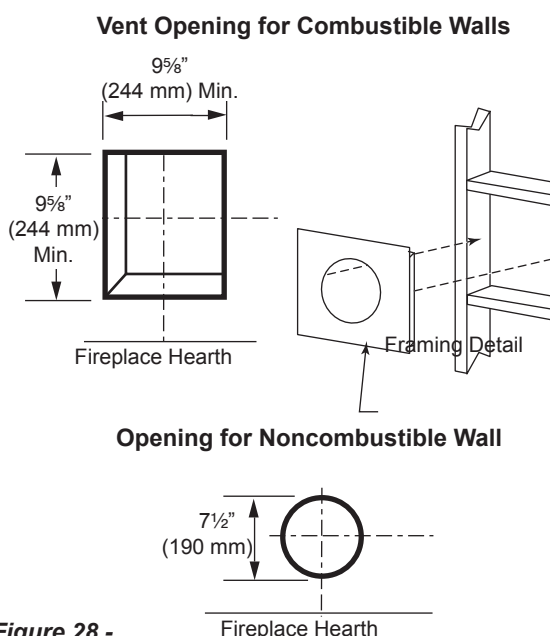

Figure 28 -
Locate vent opening on the wall. It may be necessary to first position the fireplace and measure to obtain hole location. Depending on whether the wall is combustible or noncombustible, cut opening to size. *Figure 28* (For combustible walls first frame in opening.)
Combustible Walls: Cut a 9 $\frac{5}{8}$ "H x 9 $\frac{5}{8}$ "W (244 x 244 mm) hole through the exterior wall and frame as shown. *Figure 28*
1. Establish vent hole through the wall. *Page 19, Figure 28*